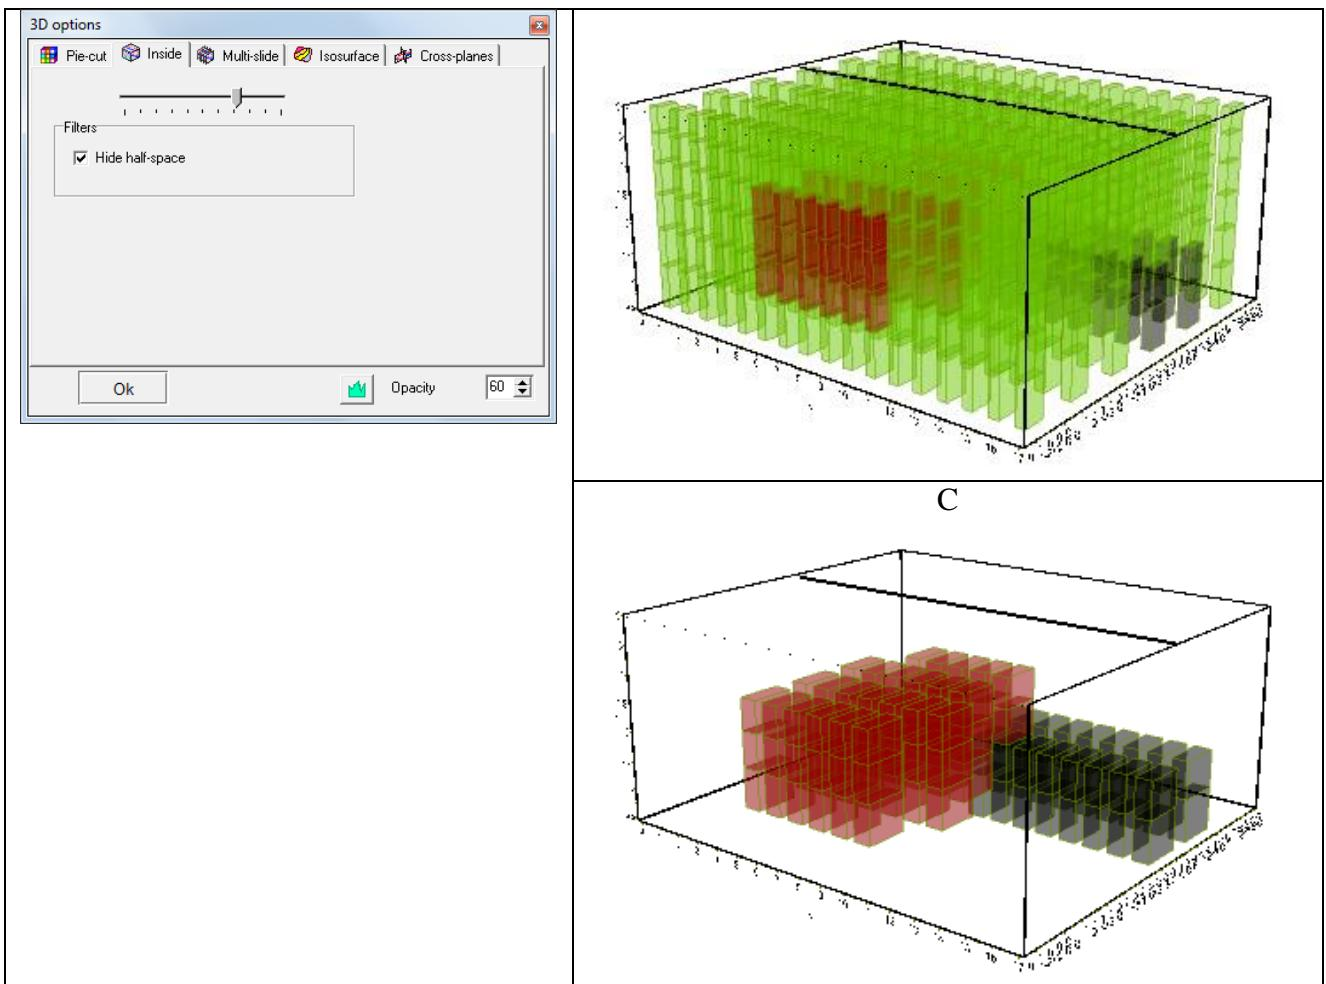

Fig. 54 Dialog window 3D options, Inside tab (A) and examples of the corresponding model visualization (B, C).
**Inside** tab – fully built the model of semi-transparent blocks (fig. 54). The slider in the top part sets relative cell size from 0 to 100 percent. The unnecessary blocks are cut off in the **Filters** section. **Hide half-space** option forbids drawing of the blocks which's values are equal to those of the half-space (convenient to use in the modelling regime). In case of inversion results displaying it is more suitable to use **Opacity** dialog settings.